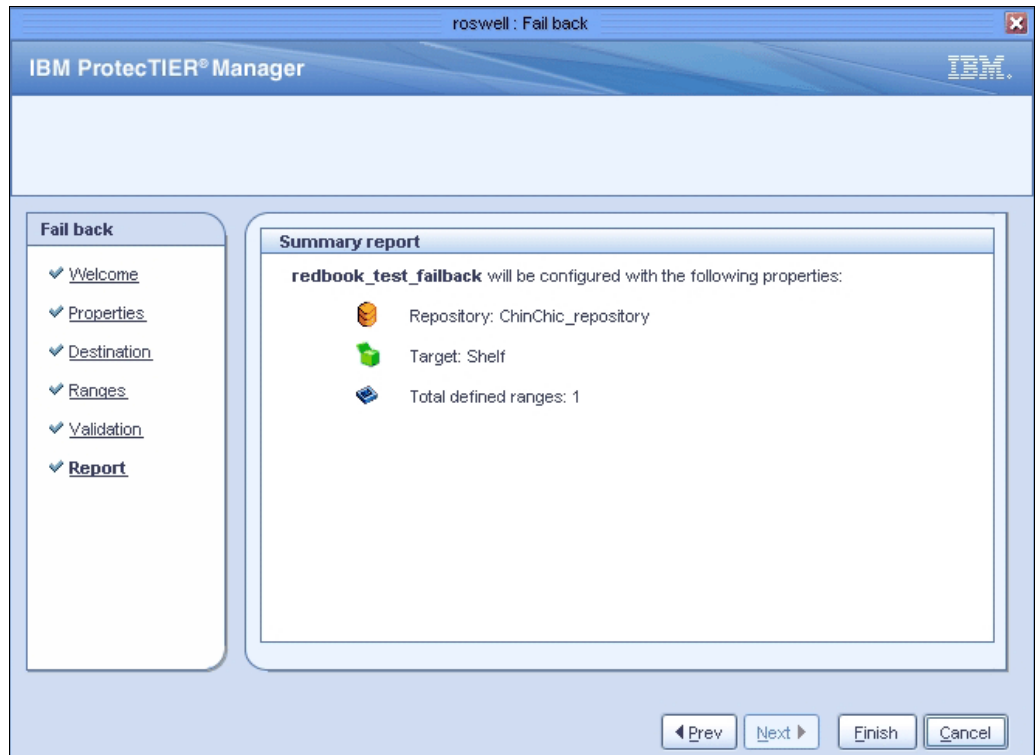

Figure 11-12 Create failback policy summary report
- Click **Next** to view the validation summary report (Figure 11-12). Click **Finish** to create the failback policy.